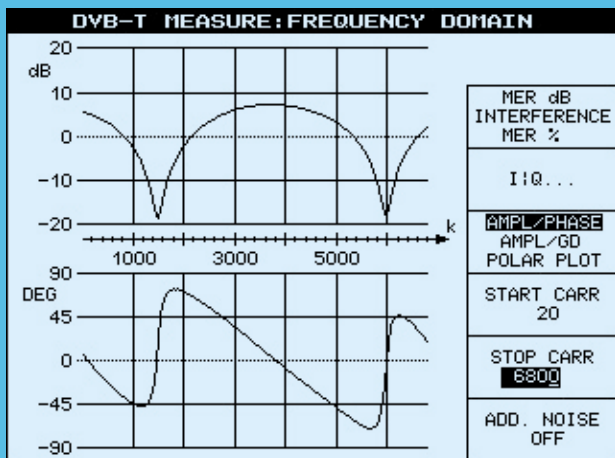

Fig. 7: Channel estimation
- ◆ Amplitude, phase and group-delay/frequency response displays (Fig. 7)